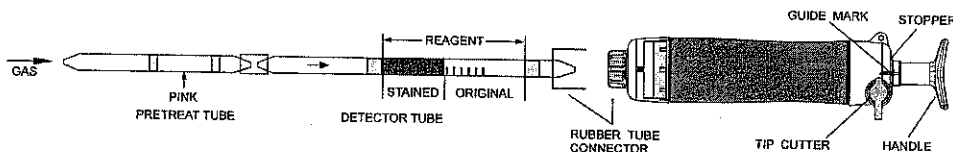

Fig.1
- ① Break both ends of the detector tube and pretreat tube, and connect each end of the detector tube and pretreat tube with rubber tube connector, as shown in Fig.1.
- ② Insert the detector tube into aspirating pump securely as shown in Fig.1. (Arrow mark shall point to the pump.)
- ③ Align the guide marks on the shaft and stopper of the aspirating pump.
- ④ Pull the pump handle at full stroke locked position and wait for 45 seconds or until the completion of sampling is confirmed with the flow indicator of the pump (See descriptions about the flow indicator in the instruction manual of the pump).
- ⑤ Turn the pump handle right or left by 1/4 (90°), push it towards the pump without removing the detector tube from the inlet and turn it right or left by 1/4 (90°).
- ⑥ Then, repeat these ③ to ⑤ procedures another 2 times.
- ⑦ On completion of sampling, read the scale at the maximum point of the stained layer.